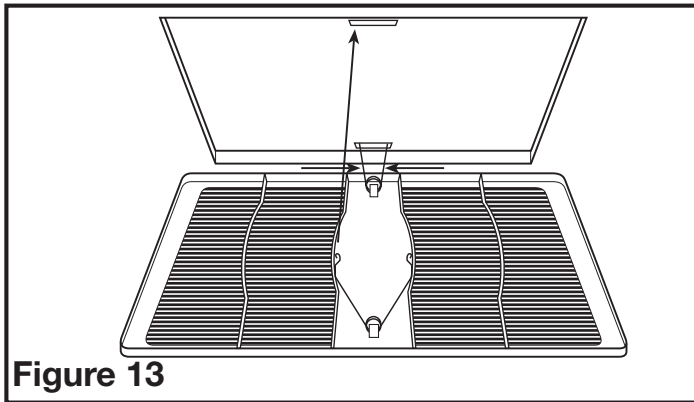

Figure 13
- 5a. **STANDARD AND HUMIDITY SENSING MODELS:** Install the grill by squeezing the two ends of the springs together and installing them up into the slots on the fan's housing. Push the grill up into position (**Figure 13**).